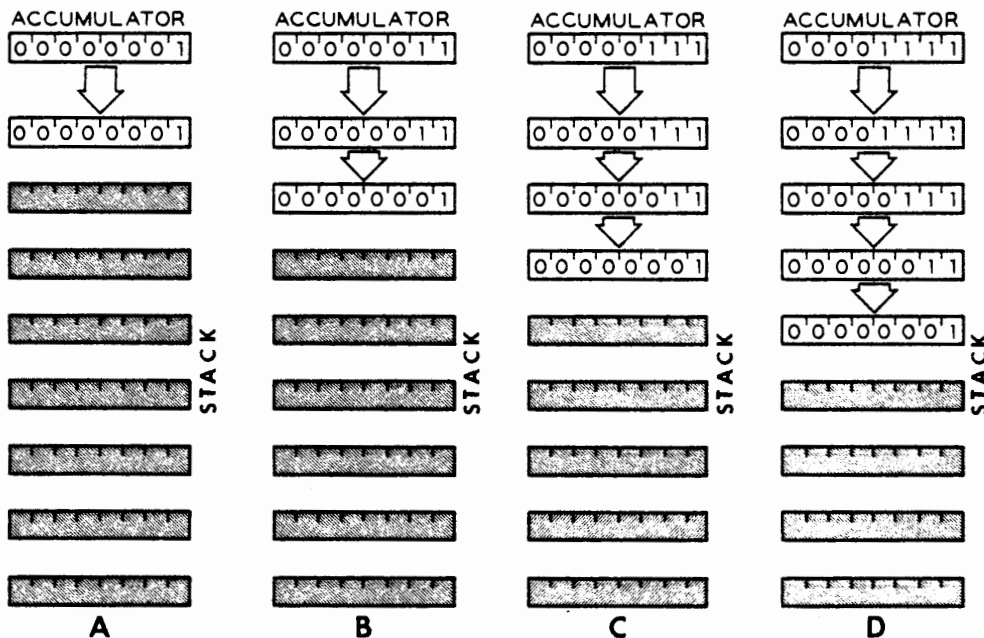

Figure 6-2.
**The PUSH Instruction.** Figure 6-2 illustrates how the PUSH instruction places data in the stack. The number  $01_{16}$  is in the accumulator and we wish to temporarily store it. While we could store the number in memory, this would require a 2-byte or a 3-byte instruction. So instead, we use the PUSH instruction to place this number in the stack. Notice that the number is placed in the top location of the stack as shown in Figure 6-2A. The number remains there until we retrieve it or until we push another byte into the stack.
If you compare Figures 6-2 and 6-3, you will notice that the data must be pulled from the stack in the reverse order. That is, the last byte pushed into the stack is the first byte that is pulled from the stack. Another name for this arrangement is a last-in/first-out (LIFO) stack.